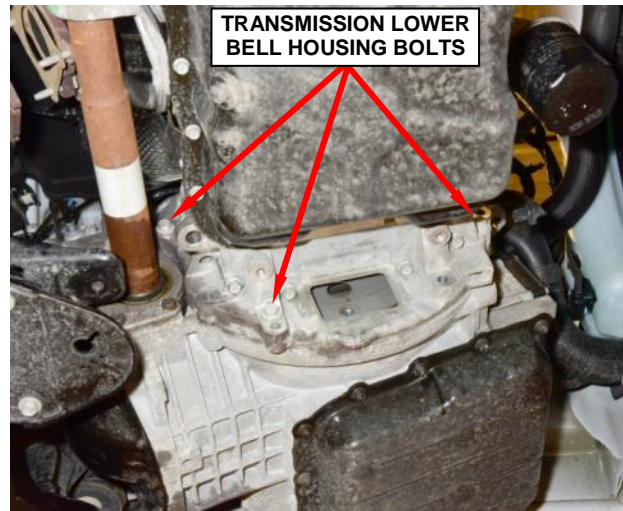

Figure 97 – Lower Bell Housing Bolts
90. Remove and save the lower transmission bell housing bolts (Figure 97).